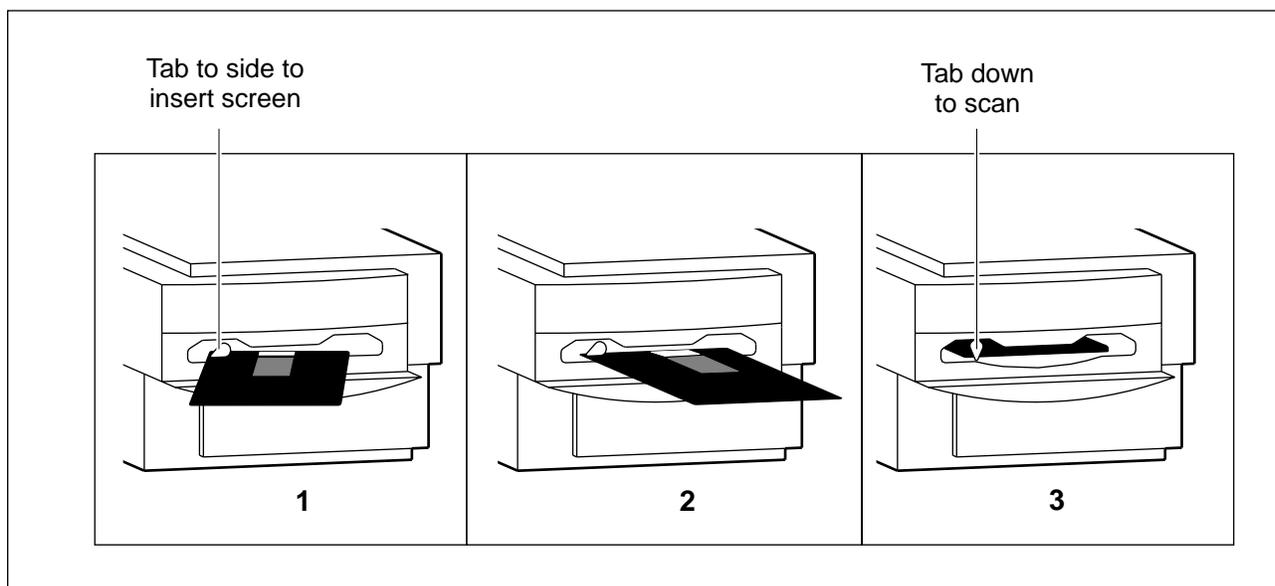

Figure 3-3. Inserting the phosphor screen into the PhosphorImager SI.
2. Holding the screen by its edges, press it up against the blue tab, rotating the tab out of the way, then slide the screen to the left and press it against the left rail (figure 3-3).
3. Make sure the screen is approximately level, then slide it into the machine, maintaining an upward pressure against the blue tab until the screen feels like it is sliding in straight (figure 3-3).